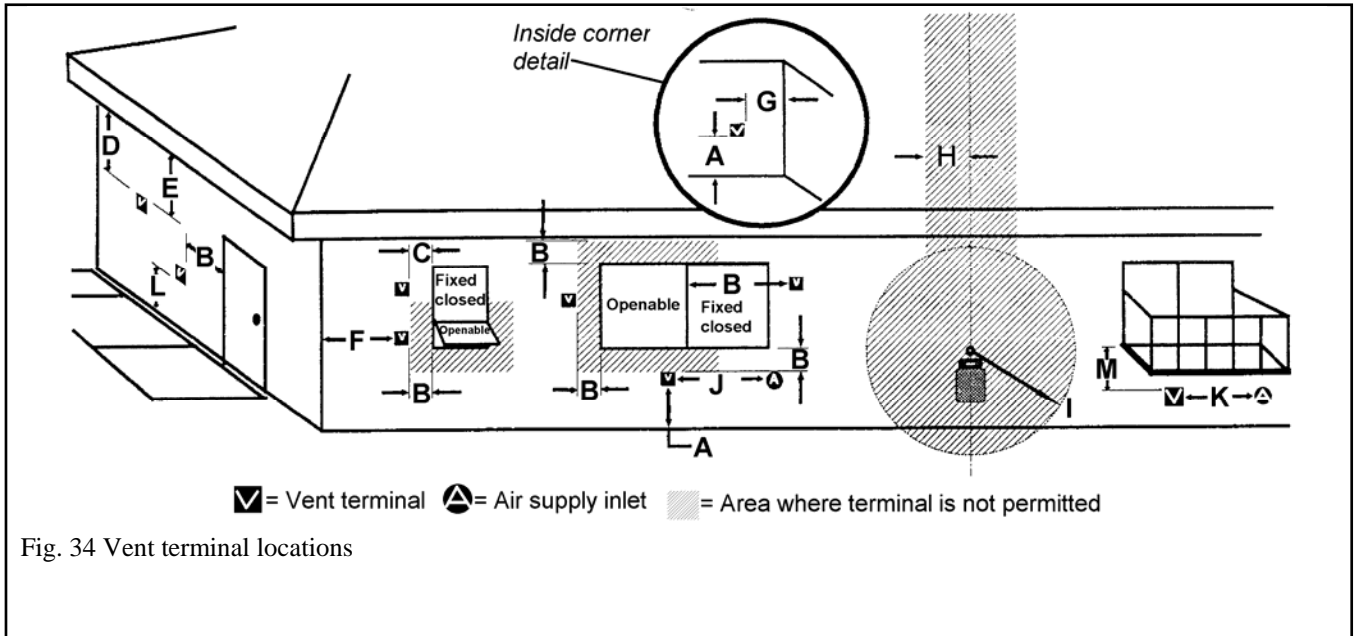

Fig. 34 Vent terminal locations
- The minimum clearances from this terminal that must be maintained when located on an outside wall are shown in figure 34. Any reduction in these clearances could result in a disruption of the airflow or a safety hazard. Local codes or regulations may require greater clearances.